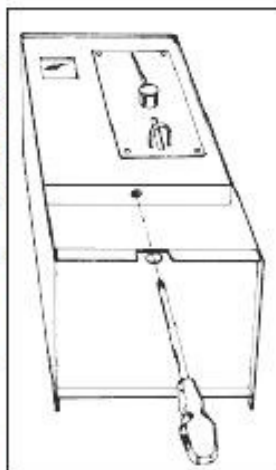

Figure 1
- ii. See Figure 1. Using a No. 1, nine inch pozidrive screwdriver remove the recessed screw and remove the front panel by pulling towards base as far as possible, lifting bottom edge slightly outwards and then lifting panel upwards. **IMPORTANT** It is essential that panel recess is clear of case lip before attempting to lift panel out. Rotate front panel and withdraw nine way connector from printed circuit board thus separating front panel from the meter case. Set programming switches (as shown in Section 3) and place panel in a safe place.